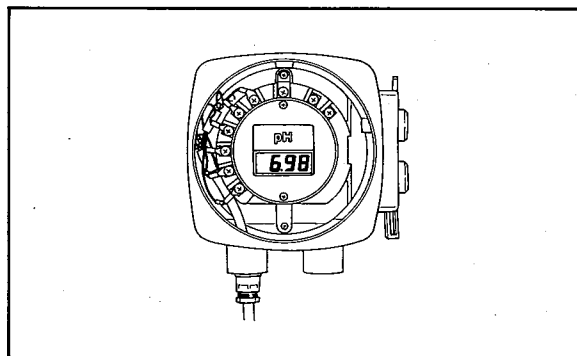

Figure 2-15. Sensor Cable Connection to Two-Wire Transmitter.
- (1) Turn the two-wire transmitter cover counter-clockwise and remove it.
- (2) Connect the sensor cable to the transmitter terminals. First, remove the nut from the cable gland, pull the cable into the internal assembly through the wiring hole on the front panel right side. Correctly connect each conductor to the corresponding terminal observing conductor marking (see Figure 2-15).